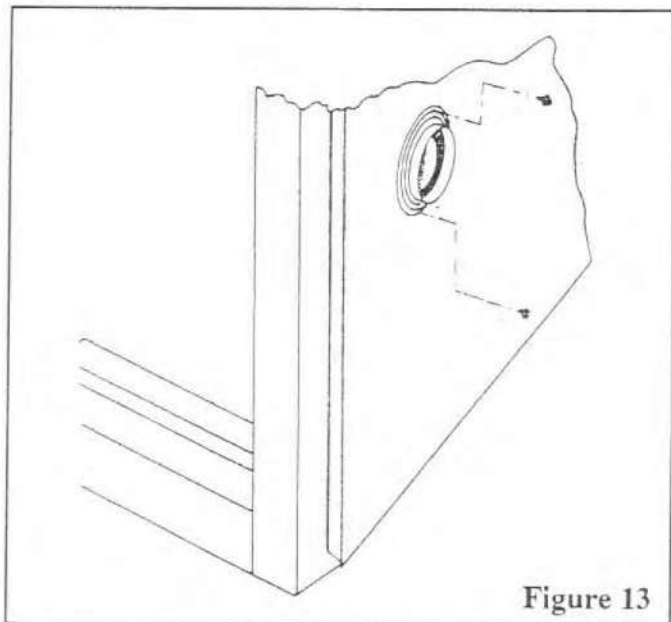

Figure 13
**STEP 6:** Four screw holes are provided in the air gate assembly and case body to secure the assembly. At this point, install only two screws at opposite sides of the flange as shown in Figure 13.